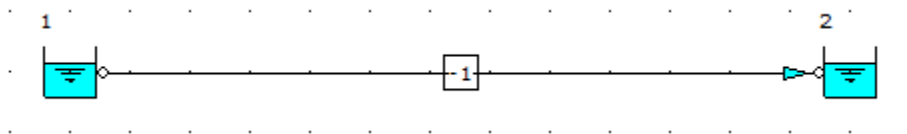

Figure 27: Converged Hydraulic Model
30. Check the converged hydraulic model in the flowsheet. The blue arrowhead shows that the flow direction is from the higher elevation node 1 to the lower elevation node 2. Also, check if the pipe is highlighted in **RED**, indicating that we have a warning message associated with the pipe element (Figure 27).